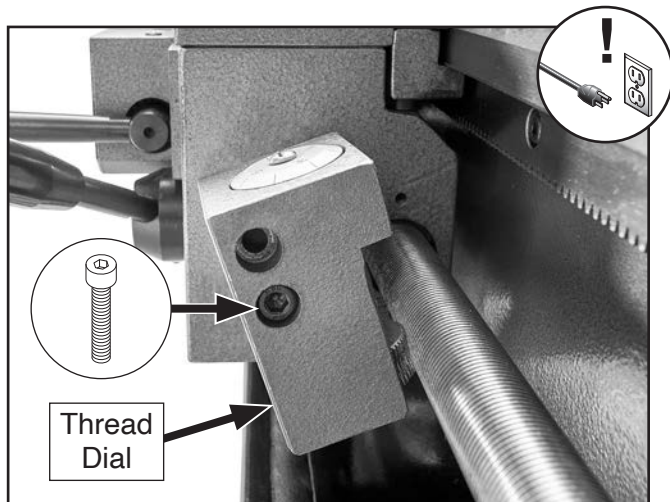

Figure 129. Location of thread dial and cap screw.
3. Remove cap screw shown in **Figure 129** to remove thread dial.